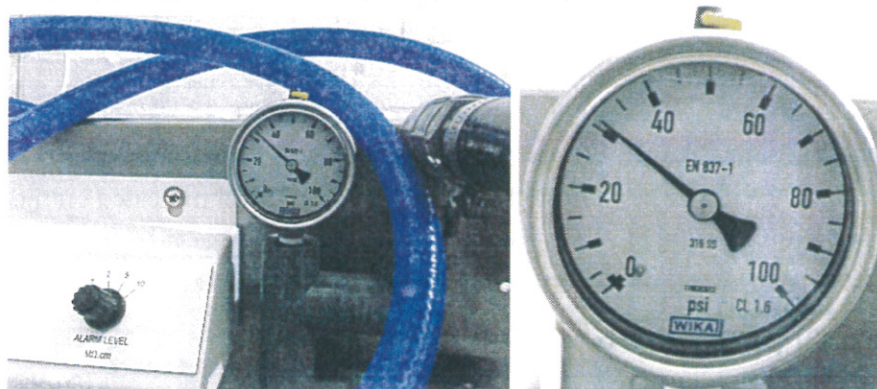

Figure 7: CC9 Filter pressure indicator, location shown in Figure 12:
6.4. When to Change CC9 Filter. Change the CC9 cylinder filter either if the pressure measured on the pressure indicator shown in Figure 7: is above the required level or the filter cylinder has been in use for more than three months, both are indicated by the Cleanroom Activity Log (Document Number AEU00496).